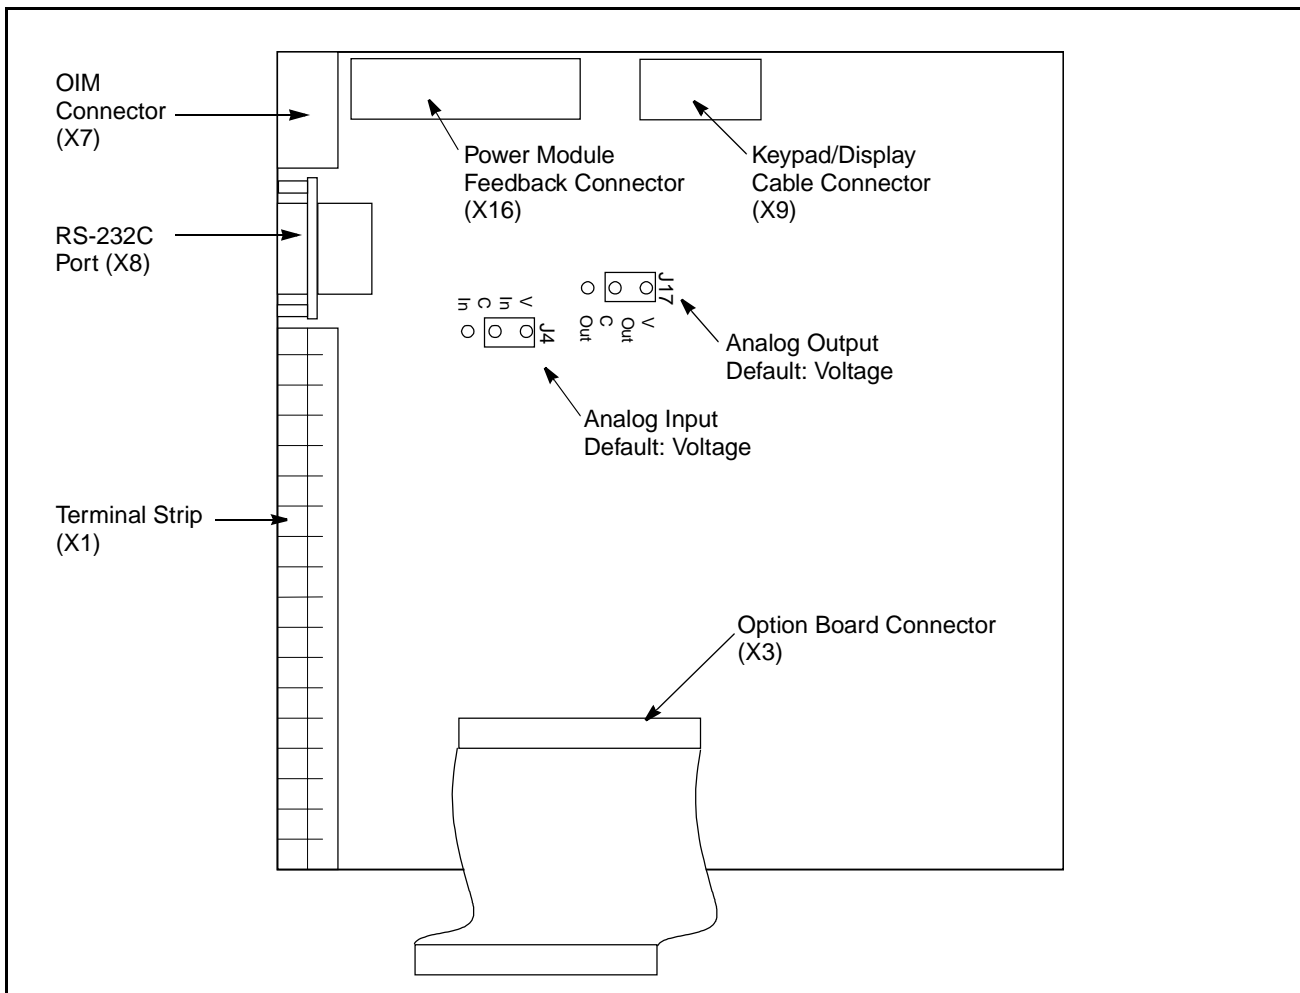

Figure 2.6 – Regulator Board Component Locations
Drive regulation is performed by a microprocessor on the Regulator board. See figure 2.6. Drive operation is adjusted by the parameters entered through the keypad. The Regulator board accepts power circuit feedback signals and an external speed reference signal, as well as data from an encoder that is attached to the motor when set up for FVC regulation.
The Regulator board components are shown in figure 2.6 and described in the following sections.
Jumpers J4 and J17 on the Regulator board are factory-set for voltage in and voltage out signals. Refer to figure 2.6 for their locations on the Regulator board. If you need to change the jumpers' settings, use the following procedures.
Step 7. Locate jumper J4 on the Regulator board. Refer to figure 2.6.
- Step 7. Locate jumper J17 on the Regulator board. Refer to figure 2.6.
The terminal strip on the Regulator board provides terminals for connecting customer I/O devices. See figures 2.6 and 2.9. The following terminals are provided: